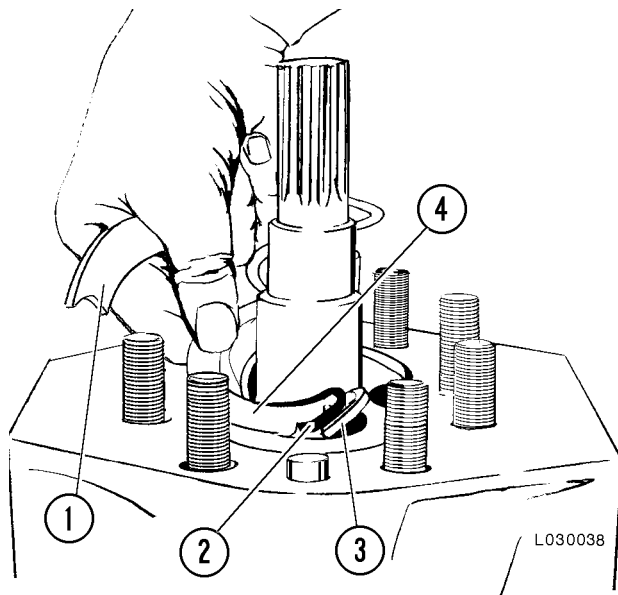

FIGURE 3-10. ISOLATION PLATE REMOVAL
5. Remove ring retainer (4, Figure 3-10), O-ring (2), back-up ring (3), and isolation plate (1).